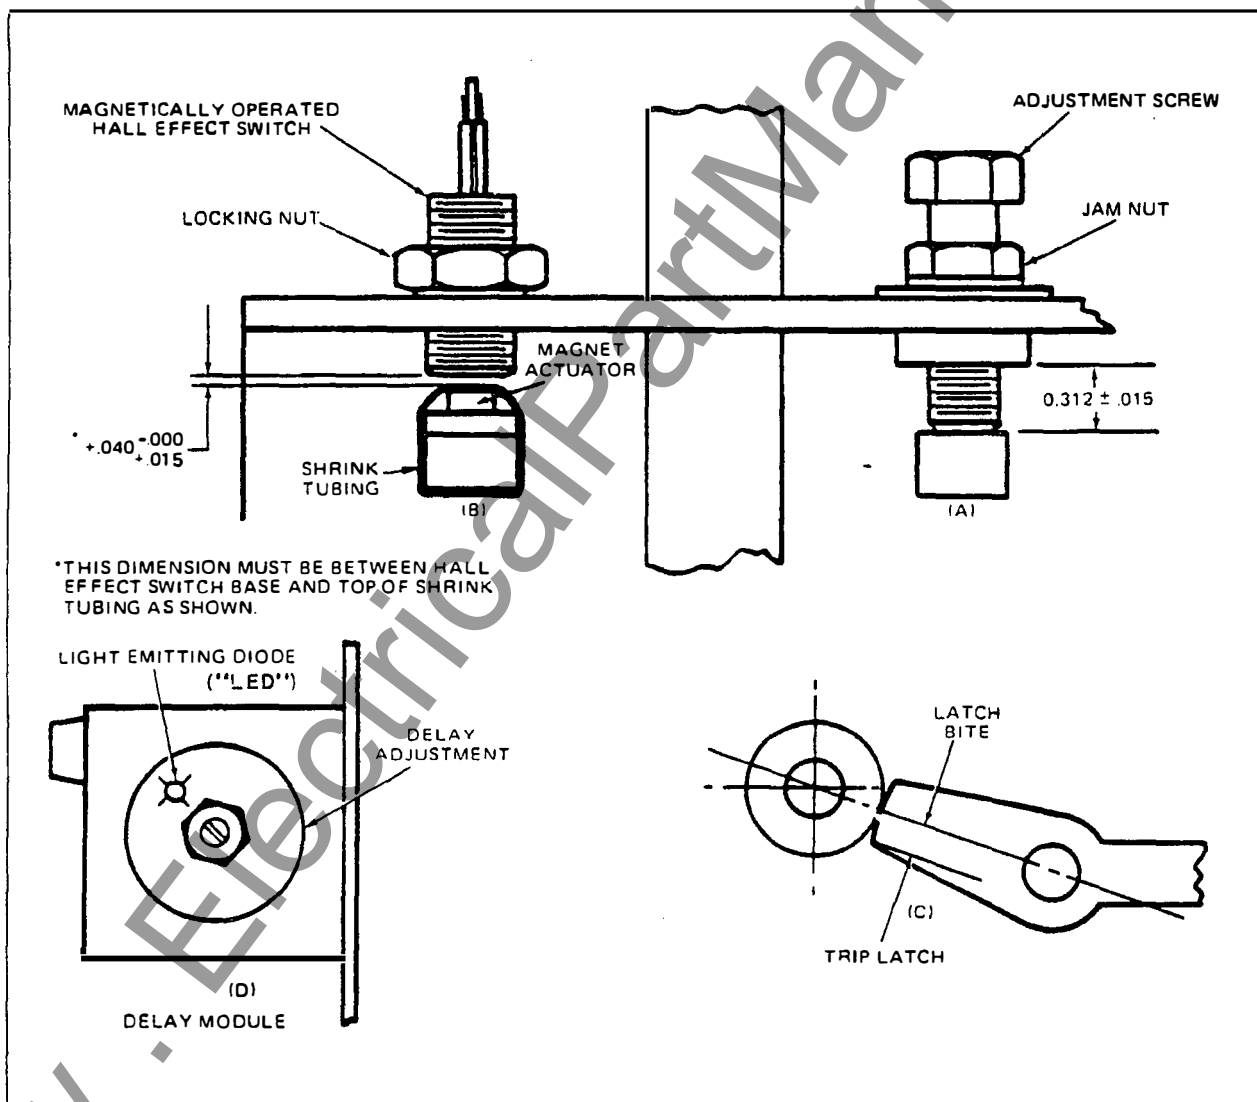

Figure 14. Trip Latch Bite and Check Switch Adjustments
**Trip Latch Bite Adjustment** — trip latch bite is established by setting the latch tail top surface  $5/16"$  (7.9 mm) below surface of self clinching nut as shown in Figure 14-(A). Lock securely with jam nut. One turn of adjusting screw will alter the gap 0.062 inches (1.57 mm). This adjustment will produce a latch bite of approximately  $1/8"$  to  $1/4"$  (3.2-6.4 mm) as shown in Figure 14-(C).
**TRIP LATCH CHECK SENSOR ADJUSTMENTS [FIGURES 14(B) AND 14(D)]**